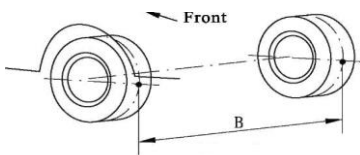

Figure 1
- 1)Straighten the front wheel of the vehicle, mark the front and rear center points of the tire, and measure the distance between the left and right tire marks " B". As shown in figure 1.